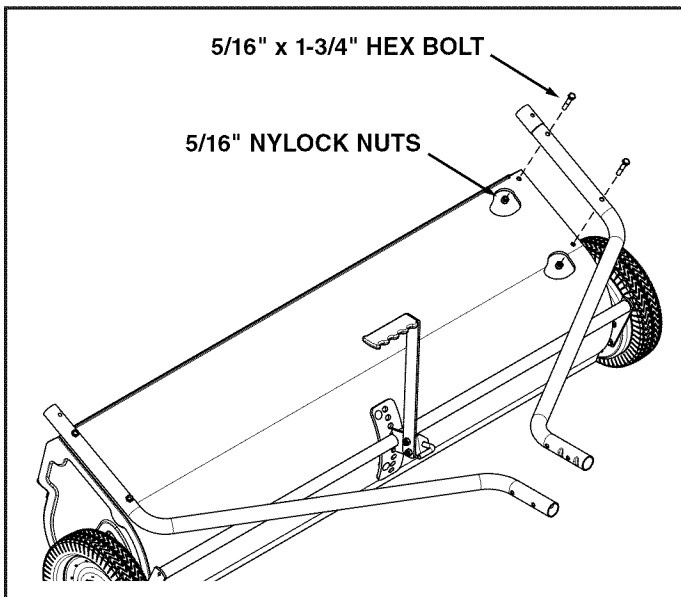
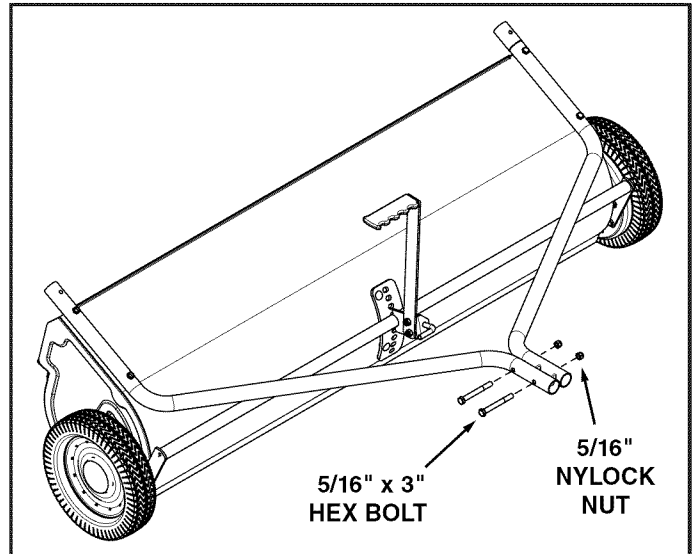
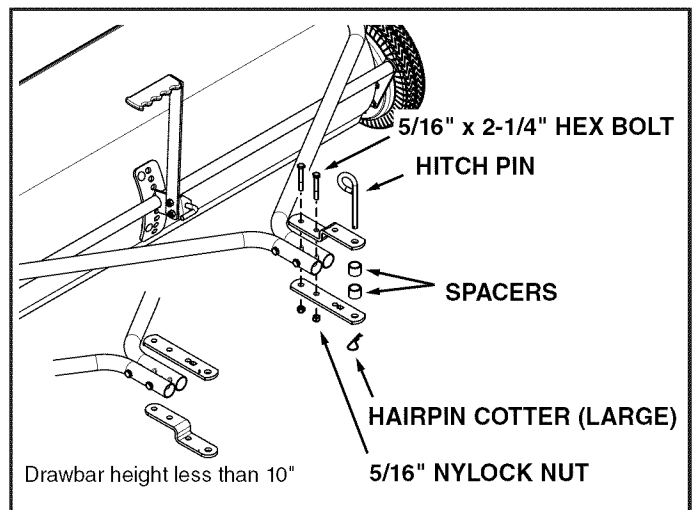

FIGURE 2
FIGURE 3
FIGURE 4
- **Tighten** all bolts and nuts in the following sequence: Tighten the bolts and nuts assembled in figure 2. Tighten the bolts and nuts assembled in figure 3. Tighten the bolts and nuts assembled in figure 4.